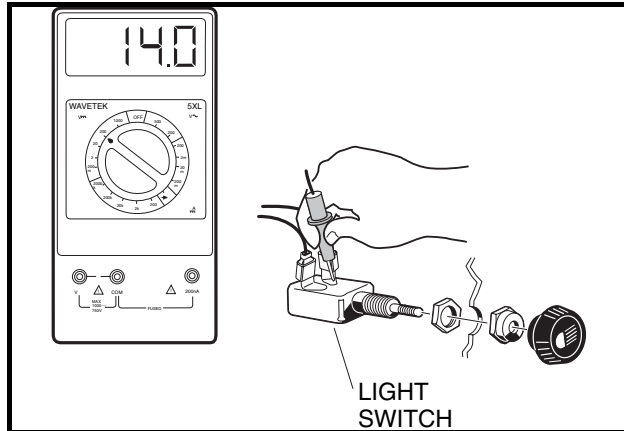

Figure 11-41 Light Switch Test
4. Using a multimeter set on 20 volts DC, place alligator clips on the multimeter probes. Connect the red (+) probe to the light switch terminal with the blue wire connected to it (**Figure 11-41, Page 11-37**).